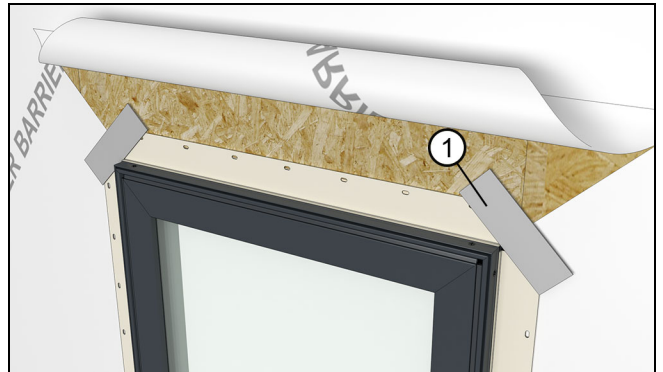

Figure 271
2. On units that use nailing fin, apply a 2" x 4" strip of flashing material at 45 degrees to the corner, bridging the gap between the nailing fin. Do this at all 4 corners. See Figure 271.